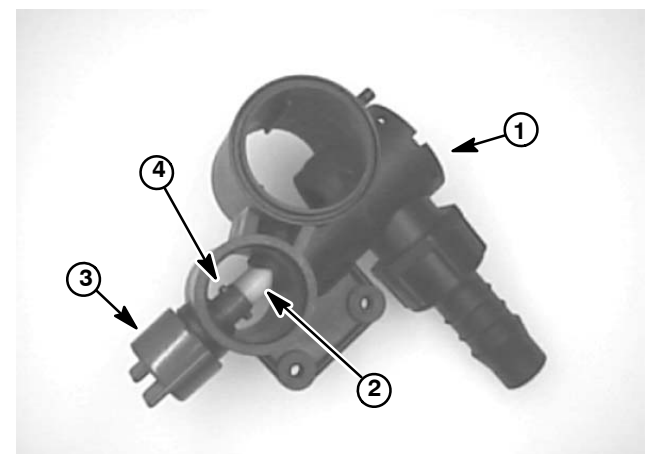

Figure 46
6. If leakage occurs from balancing valve knob at bottom of boom valve manifold (Fig. 46):
2. If boom valve manifold was disassembled (Fig. 46):